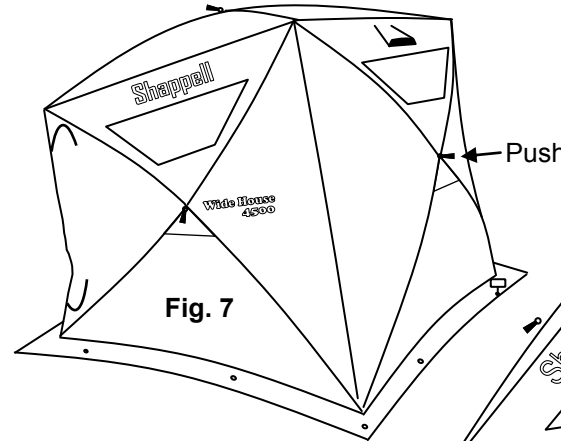

Fig. 7
1) Remove ice anchors, leaving one. Push in on side hub so it pops in. (Fig. 7)